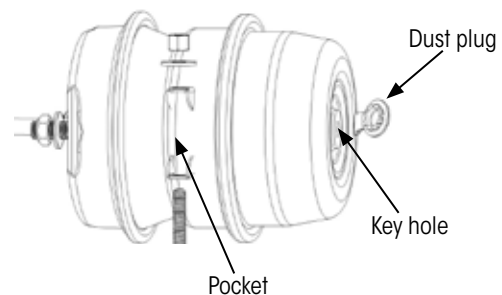

Figure 32: Release tool assembly
1. Remove dust plug from key hole in center of brake chamber Figure 32.
2. Remove release tool assembly from side pocket Figure 32.
**NOTE:** Seat brake chamber dust plug (Figure 32 on page 25) by pressing down and rotating plug back and forth until fully seated. Tug on tether of dust plug to confirm dust plug is seated.